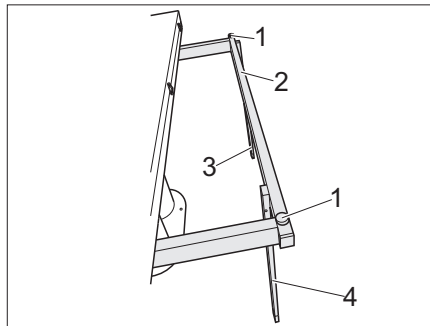

Fig. 114 Move legs into vertical position
- Pull out the table base (Fig. 114,2).
- Move legs (Fig. 114,3 and 4) into vertical position.
- Use the two adjusting screws (Fig. 114,1) to adjust the table-top to the desired height.